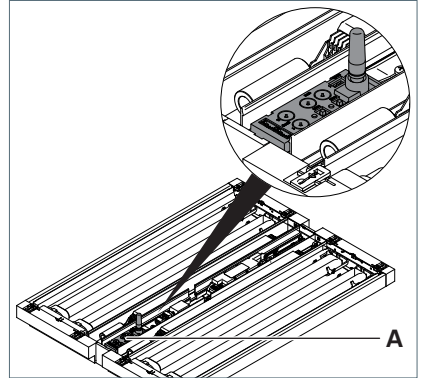

Fig. 4: Module in a TYCOON luminaire head.
- ▶ Insert the module **A** into the unused area in the central support of the luminaire head, see Fig. 4